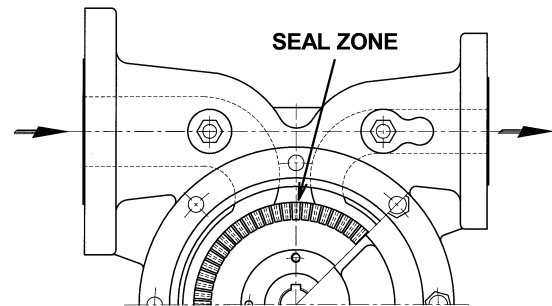

Figure 7
4. Check Second Stage Impeller and Seal Zone of Body for damage or wear. Replace Impeller if blades have been broken or wear is excessive. Refer Figure.7.